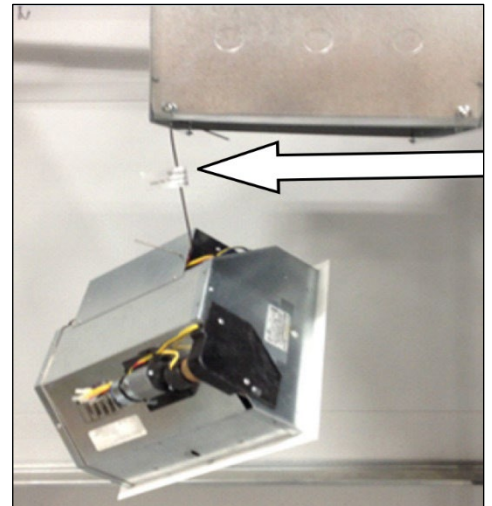

Figure 1
1. Wire unit into your rough-in wiring. A temporary suspension hanger is provided to aid in wiring, if needed, as shown in **Figure 1**.